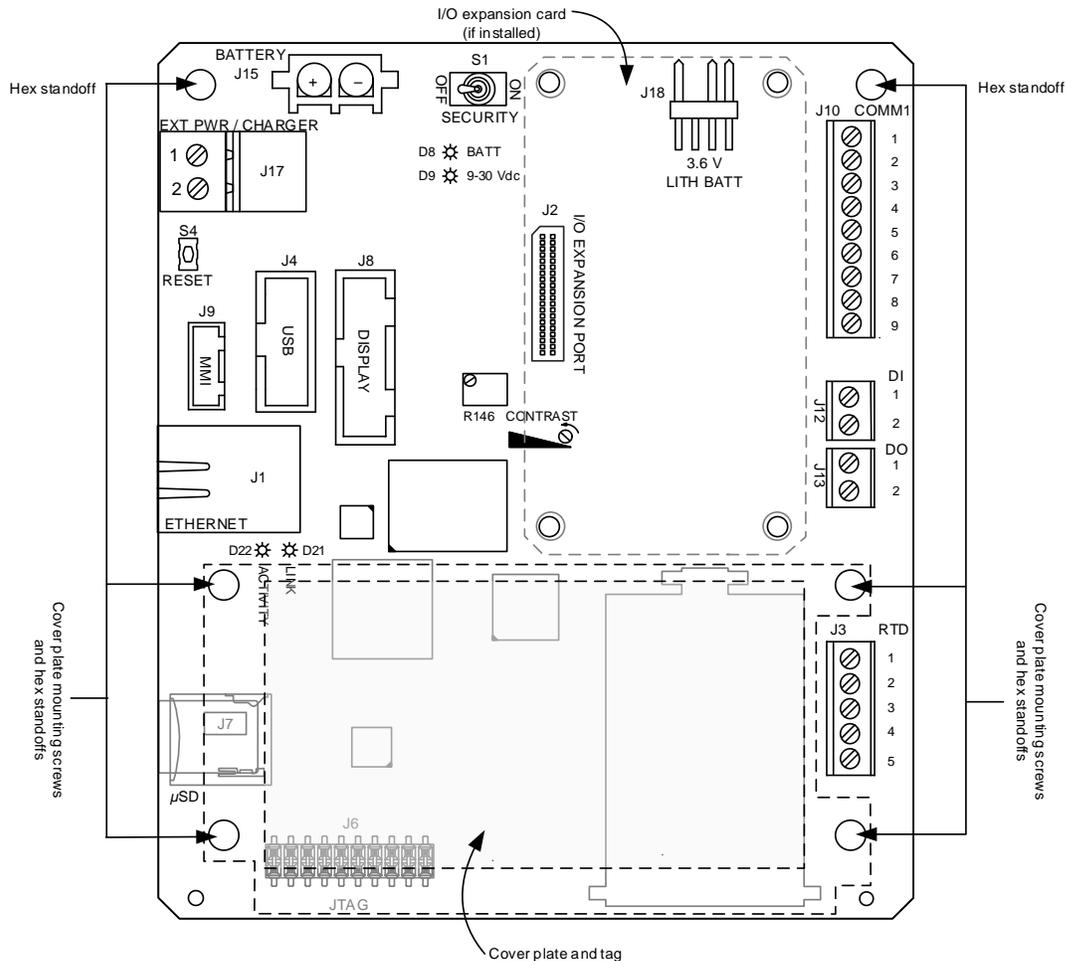

Figure 85: μ FLOG⁵ electronic board hex standoffs
2. On the μ FLO^{G5} board, gently remove the lithium battery cable from the lithium battery connector (J18, Figure 85, on page 104).
8. Using a ¼ inch hex driver, remove the six (6) hex standoffs that attach the μ FLO^{G5} electronic board to the transducer housing (Figure 85).
4. Disconnect the μFLOG^{G5} LCD port connector (J8, Figure 85, on page 104).
3. Reconnect the LCD port connector (J8, Figure 85, on page 104).